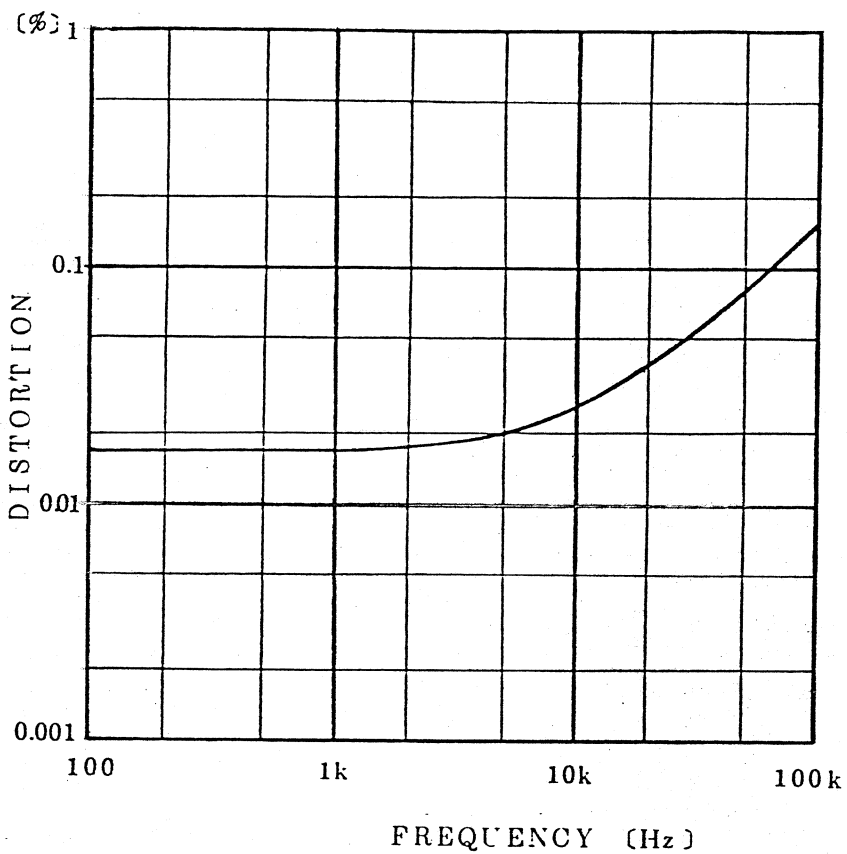

Fig. 6-7 Frequency vs. harmonic distortion (output level 5Vrms, 2kΩ load)
- Fig. 6-7 Frequency vs. harmonic distortion